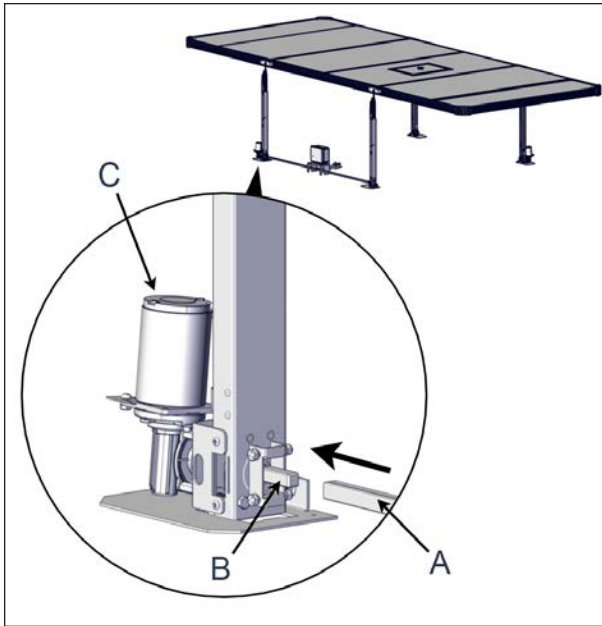

FIGURE 78: DRIVE SHAFT INSTALLATION ON THE MOTOR SIDE
2. Slide the drive shaft over the square shaft of one motor-side jack see Figure 78.